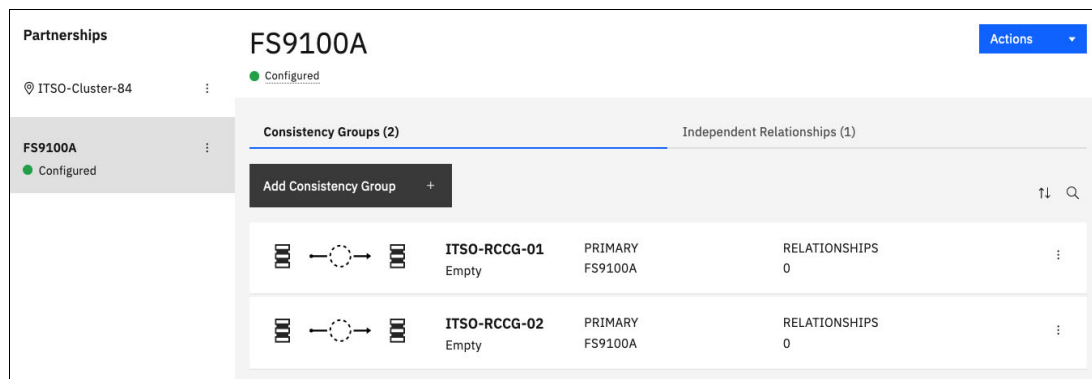

Figure 10-125 Remote Copy Consistency Groups tab
3. You can add standalone relationships to the recently added consistency group by selecting the **Independent Relationships** tab, right-clicking the wanted relationship and clicking **Add to Consistency Group**. You also can create relationships directly for this consistency group by selecting it in the **Consistency Group** tab, as shown in Figure 10-125, and then, clicking **Create Relationship**.